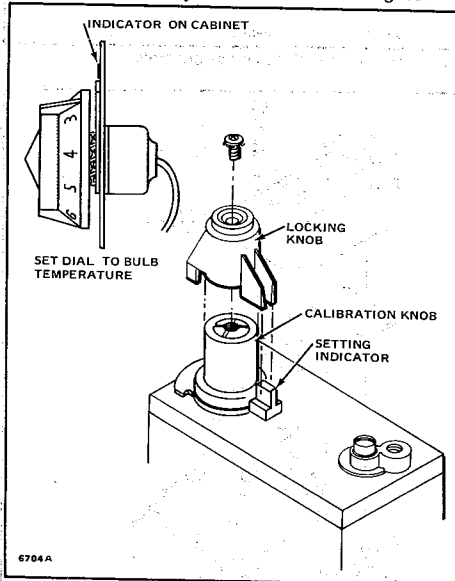

Fig. 13— Calibrating V504/V524 with dial mounted on cabinet.
2. Set the remote dial to the number corresponding with the bulb temperature. See Table 3 and Fig. 13.
4. Slide the black locking knob over the calibration knob with the setting indicator in the notch. See Fig. 13. Insert the screw supplied with the dial and tighten firmly.